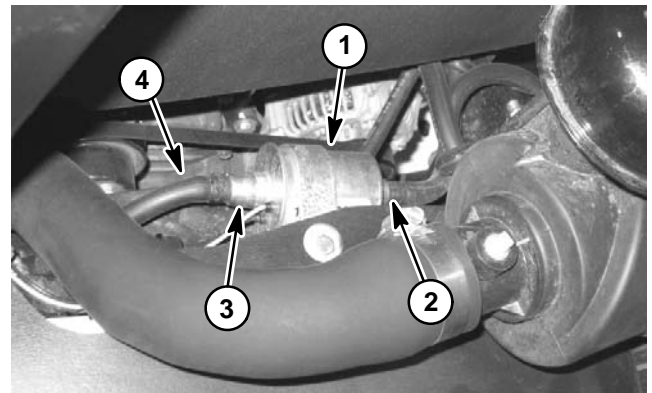

Figure 65
The fuel pump on Greensmaster 3400 machines is secured to the radiator assembly with an r-clamp (Fig. 65). The Toro Electronic Controller (TEC) energizes the fuel pump when the ignition switch is in either the RUN or START position.
3. Disconnect machine fuel supply hose from the fuel pump outlet (Fig. 65).
6. Collect fuel in the graduated cylinder by turning ignition switch to the RUN position. Allow pump to run for fifteen (15) seconds, then turn ignition switch to OFF.
7. Fuel collected in the graduated cylinder should be approximately 16 fl oz (475 ml) after fifteen (15) seconds.